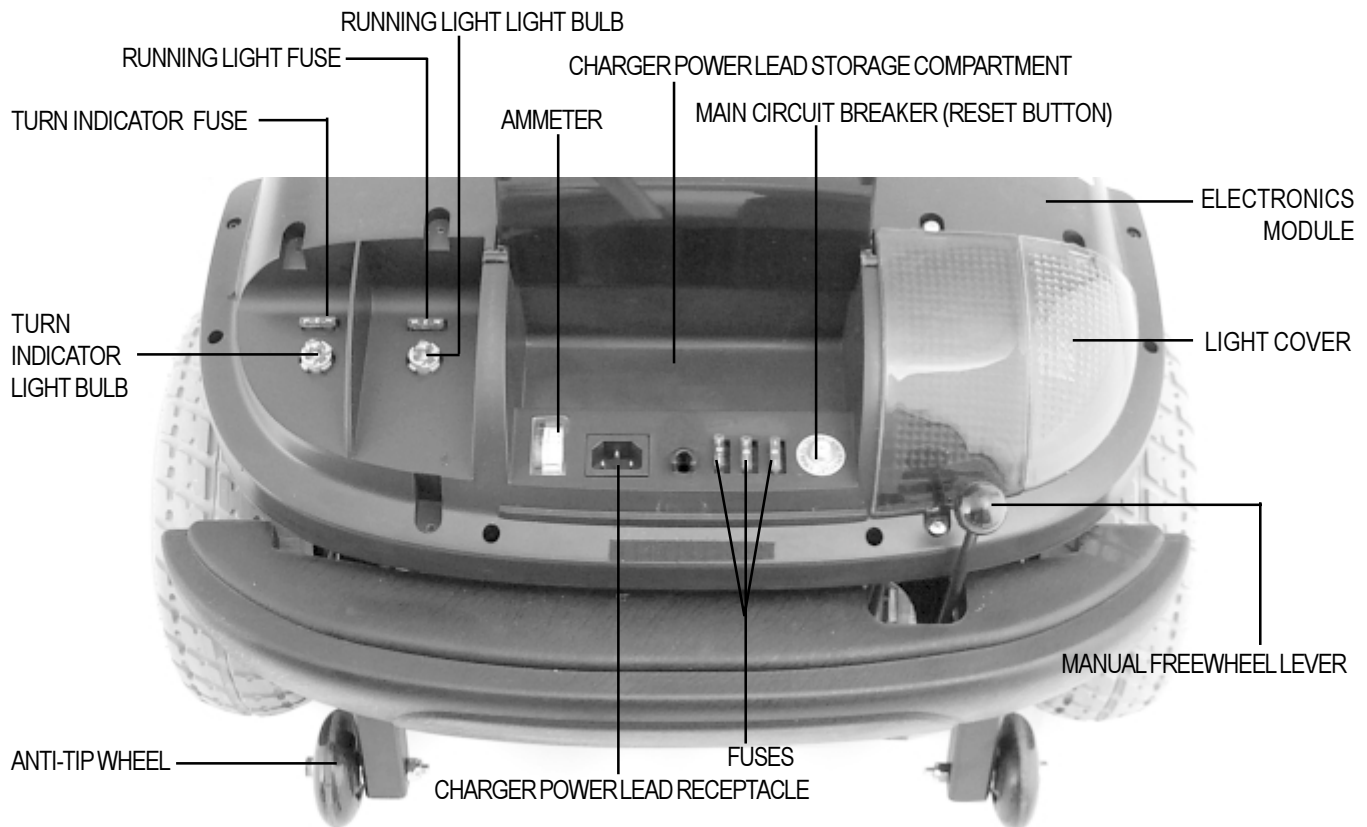

FIGURE 8. REAR SECTION (LEFT LIGHT COVER REMOVED FOR CLARITY)
The onboard battery charger (not shown), the charger power lead receptacle, the batteries (not shown), the electronics module, the main circuit breaker (reset button), the ammeter, the manual freewheel lever, the anti-tip wheels, and the motor/transaxle assembly (not shown) are located on the rear section of your Cyclone. See figure 8. Refer to VIII. “Disassembly and Assembly” for instructions on removing the rear shroud.
When the voltage in your Cyclone’s batteries becomes low or your Cyclone is heavily strained because of excessive loads or steep inclines, the main circuit breaker may trip to protect your Cyclone’s motor and electronics from damage. See figure 8.
- The manual freewheel lever is located on the end of the motor/transaxle assembly at the right rear of the Cyclone. See figure 8.
The anti-tip wheels are an integral and important safety feature of your Cyclone. Do not, under any circumstances, remove the anti-tip wheels from your Cyclone. See figure 8.